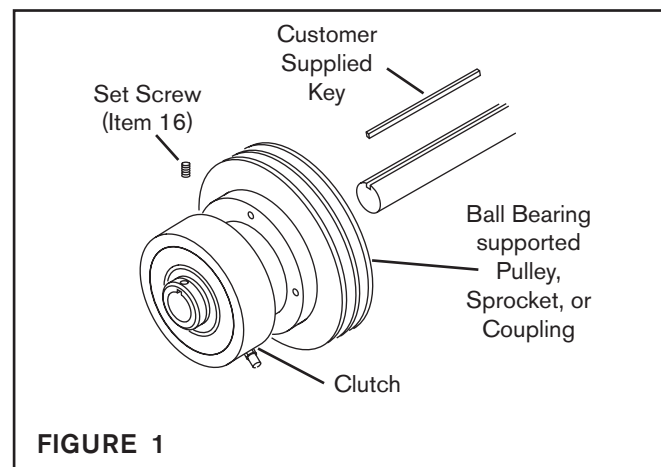

FIGURE 1
1. Install the Flexible Coupling or bearing supported pulley, sprocket, or gear (See Figure 1 and Table 1).
2. Insert the customer supplied key into the shaft (See Figure 1).
3. Slide the Tooth Clutch onto the shaft and customer supplied key (See Figure 1).
4. Using the Set Screws (Item 16), secure the Tooth Clutch to the Shaft (See Figure 1).